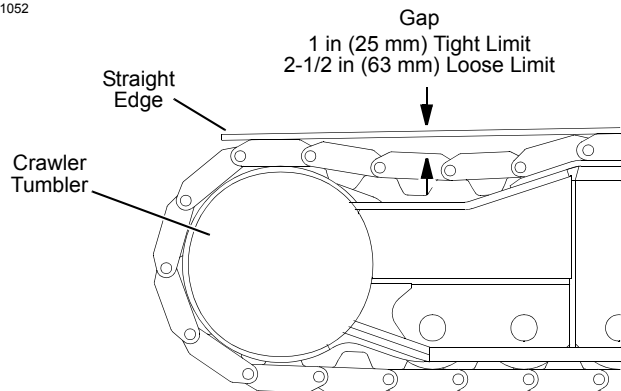

FIGURE 8-2
2. Place straight edge on tread as shown in Figure 8-2. Gap between straight edge and top of tread at lowest point should be between 1 in (25 mm) **tight limit** and 2.5 in (63 mm) **loose limit**.